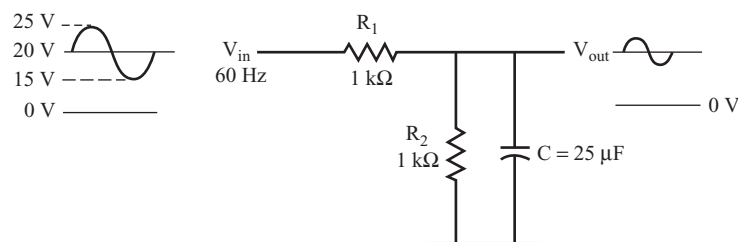

FIGURE 6.35
For the circuit shown in Figure 6.35, you can calculate the AC and DC output voltages separately by following the steps outlined in the following questions.
- B.** For the circuit in Figure 6.35, determine through which circuit components DC signals will flow. Then use the voltage divider formula to find DC  $V_{out}$ .
- C.** For the circuit in Figure 6.35 determine which circuit components AC signals will flow through. Then use the voltage divider formula to find AC  $V_{out}$ .